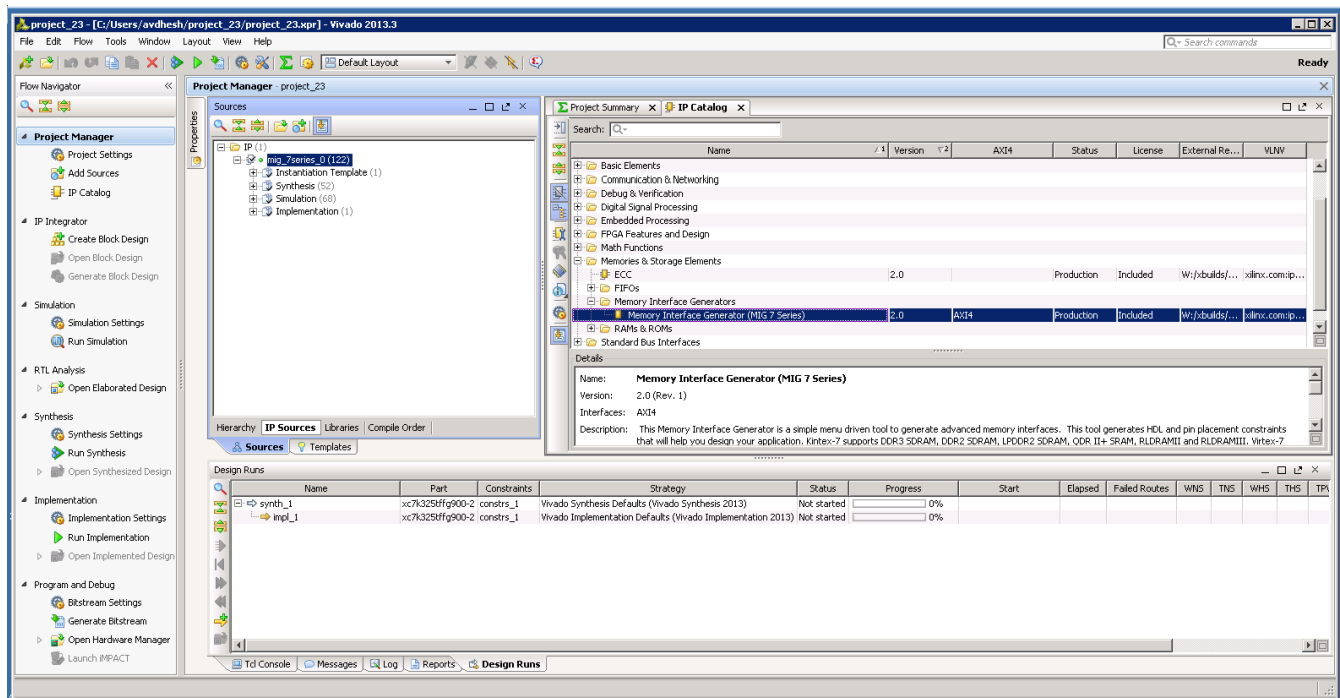

Figure 3-27: Vivado Tool Project Window (After IP Generation)
4. After generating the MIG design, the project window appears as shown in Figure 3-27.